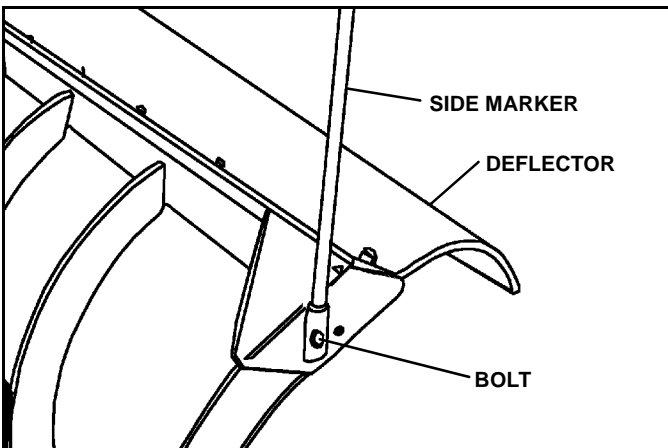

Figure 1-12
6. Install deflector at this time. Refer to mounting instructions supplied with the deflector kit. Install blade guides (blade side markers) to holes in outside blade ribs, secure using hardware supplied with blade guide kit. (See Figure 1-12)